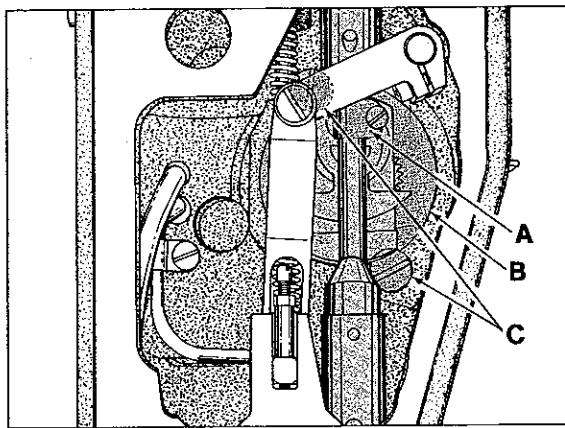
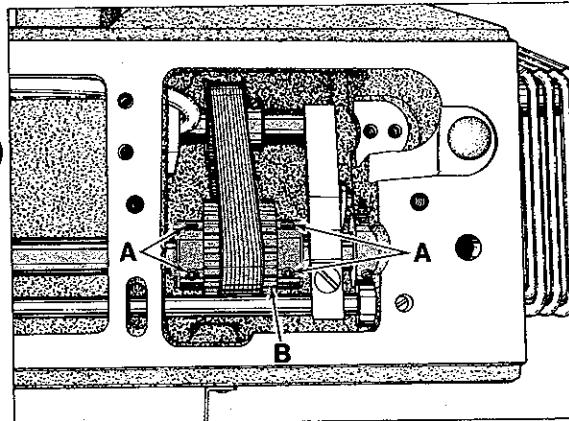
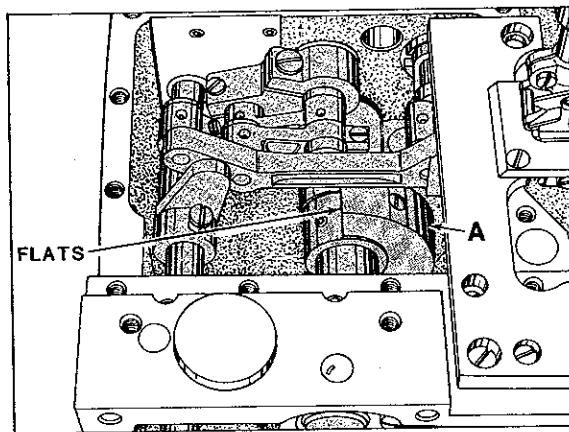

Fig. 3
Fig. 4
Fig. 5
While holding handwheel, turn lower mainshaft to position feed crank counterweight (A, Fig. 5) with its FLATS perpendicular to the bottom of machine and facing away from the operator as shown in Fig. 5. Tighten screws (A, Fig. 4) in upper mainshaft sprocket (B).
**NOTE:** Cardan drive internal tooth ring gear (B, Fig. 3) has been set at the factory and secured with screws (C). DO NOT attempt to remove this gear. Without proper adjustments, damage to needle bar may result.
Turn handwheel in operating direction to position needle bar clamp (A, Fig. 3) at TOP of stroke. Loosen four screws (A, Fig. 4) in upper mainshaft sprocket (B) and hold handwheel so upper mainshaft and needle bar cannot move.